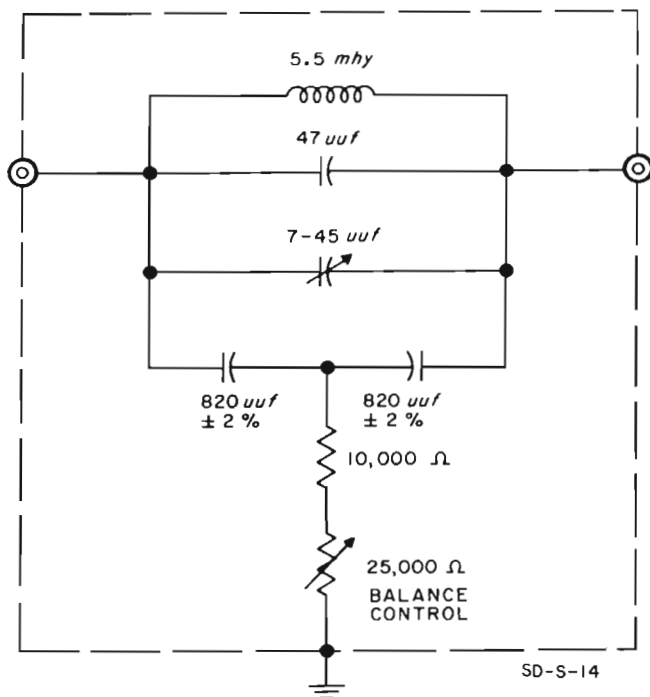
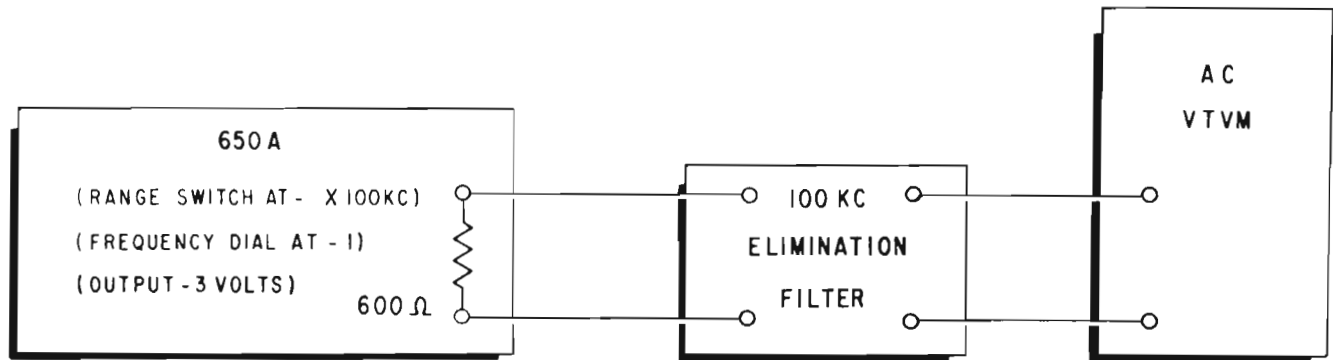

Figure 4-2. 100 kc Filter
Figure 4-4. Equipment for High Frequency Distortion Measurement
g. Elimination filter for 100 kc as shown in Figure 4-2. Any coil and capacitor combination can be used that will resonate at 100 kc. If a different inductor is used, the value of the balance control and series resistor will have to be changed. The inductor shown in Figure 4-2 can be obtained under ^{typ} Stock No. 48-3.
- D. Connect 100 kc filter shown in Figure 4-2 across output terminals and an external ac meter across filter output terminals. The meter used must be capable of accurately measuring frequencies that are harmonics of 100 kc. See block diagram given in Figure 4-4.